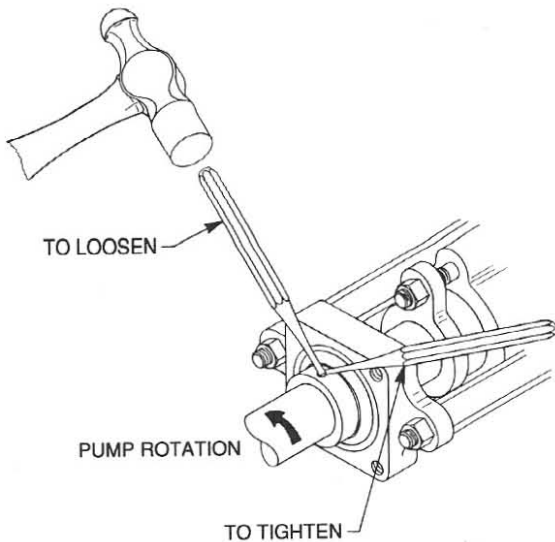

Figure 4 - Bearing Lock Collar
3. Using a punch tool and hammer, turn the lock collar in the opposite direction of pump rotation (see Figure 4). Once the collar is removed, the bearing can be pulled from the bearing flange and off the shaft.
4. Remove the locknuts (106A) from the hex flange rods and remove the bearing flange (106).
1. Screw the short threaded ends of the two (2) hex flange rods (106E) firmly into the tapped holes in the head.
2. Place the bearing flange (106) on the studs and tighten the locknuts (106A).
4. Push inward on the bearing and lock collar assembly (106B) while turning the lock collar by hand in the direction of shaft rotation. Lock the collar to the shaft with a punch tool and hammer (see Figure 4).